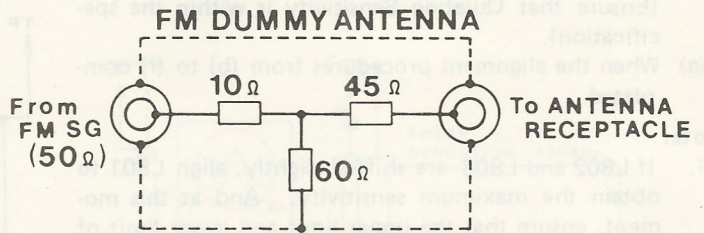

Fig. 9
- (f) Connect the output of FM RF signal generator to the antenna through dummy antenna. Set the frequency of FM RF sweep generator to 98 MHz exactly, and tune the receiver to 98 MHz as well. Let the output level of FM RF sweep generator be 1mV. Refer to Fig. 9.